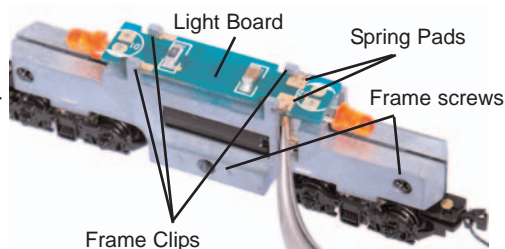

Figure 2: Remove two motor springs with tweezers - store in safe place
2. Carefully remove the motor springs with tweezers. Store these springs in a safe place for later re-use **Figure 2.**
3. Slide the factory light board forward to release it from under the clips on the locomotive frame. Be careful not to distort the frame clips as you slide and lift the light board off the frame. **Figure 2.**